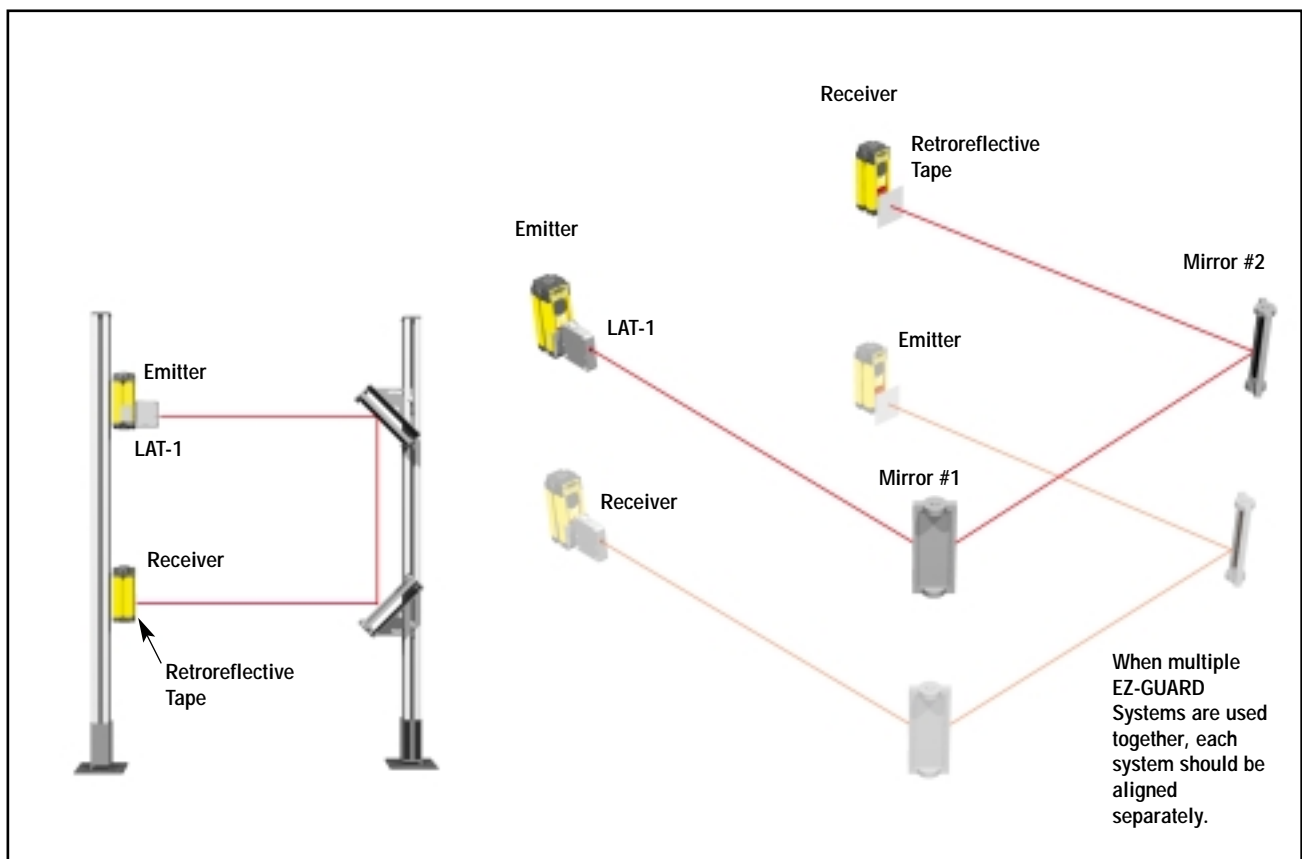

Figure 3-16. Optical alignment using the LAT-1
- 2) *If no corner mirrors are used in the application*, attach or hold a piece of reflective material, such as white paper, the reflective tape included with the LAT-1, or the optional clip-on reflective target, to the receiver at the beam location. **Do not affix the self-adhesive backing of the reflective material to the sensor windows or to the mirror surfaces; the adhesive residue may not be easy to remove.** See Figure 3-16.